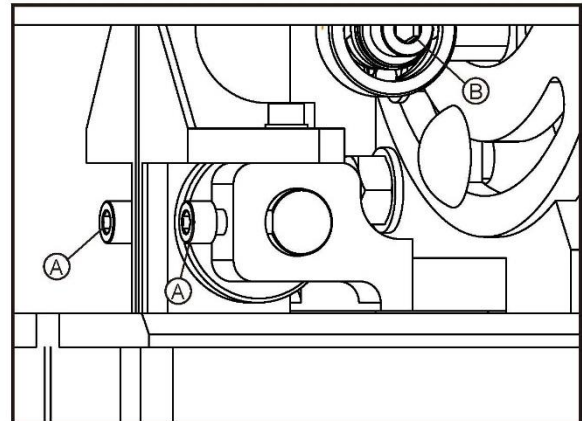

Fig.4.5.2
- To face plate should lightly touch the blade, to prevent vibration during operation and ensure correct direction of cutting. The positioning of these face plate is controlled by screw "A"(Fig.4.5.2), once they have been adjusted, tighten the screw "A"(Fig.4.5.2); they should be 2 mm behind the teeth of the blade. The thrust shaft prevents excessive backward movement of the blade whilst in operation , and should be 1-2 mm from the back of the blade: this can be adjusted by screw "B"(Fig.4.5.2).